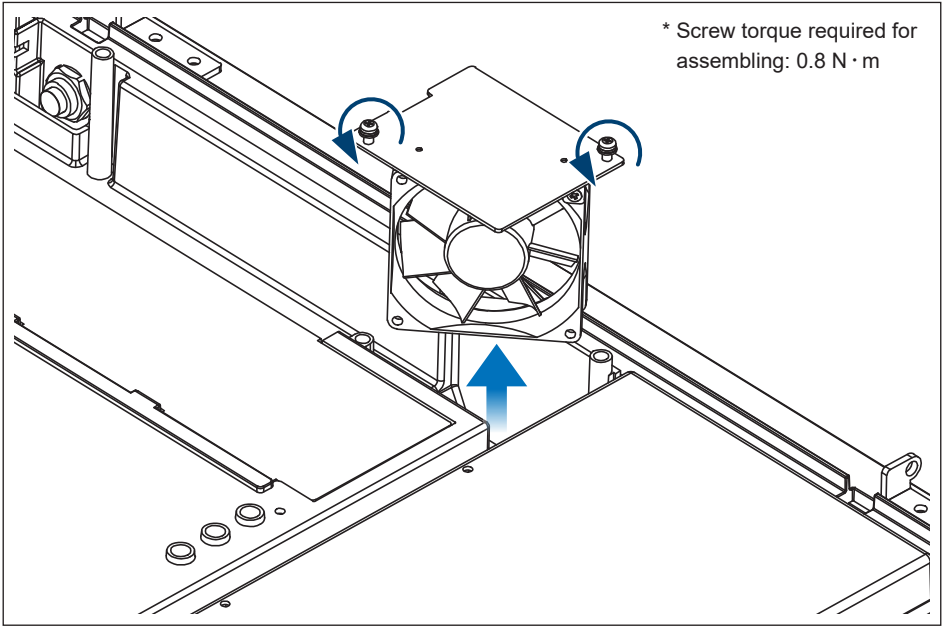

Figure 5-11: Take off the internal fan 1
- (3) Loose two self-retaining screws and remove the fan cabinet. (**Figure 5-11**)